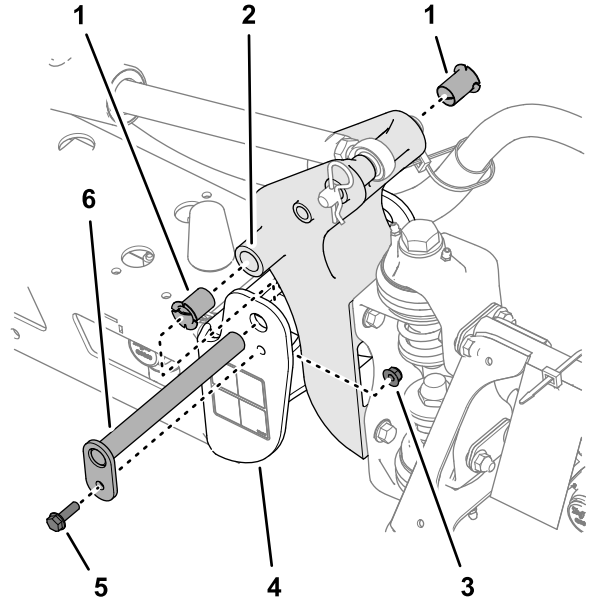

Figure 120
- Remove the bolt and nut that secure the pivot pin, and remove the pin (Figure 120).
- Remove and inspect the nylon bushings from the front and back sides of the pivot bracket (Figure 120).
- Lubricate the nylon bushings with a small amount of oil, and install the bushings into the pivot bracket (Figure 120).
- Align the holes in the pivot bracket with the holes in the end channel (Figure 120).